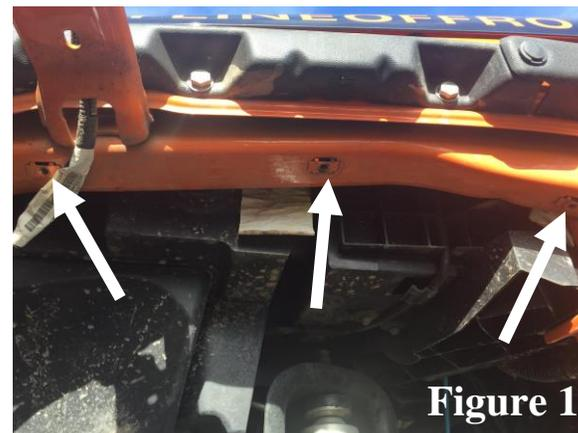

Figure 1
Step 1 – Remove the factory plastic inner fender liner by unscrewing (3) bolts along the top side and (1) bolt by the front edge of the factory fender using a 10mm socket. Also, remove the clip nut from the one bolt you removed from the front edge location (you will NOT reuse this). Once bolts are removed the factory inner fender liner can be removed. Retain the (3) top side bolts as you will need these for installation of the new fender liners. (See **Figure 1 & 4**)